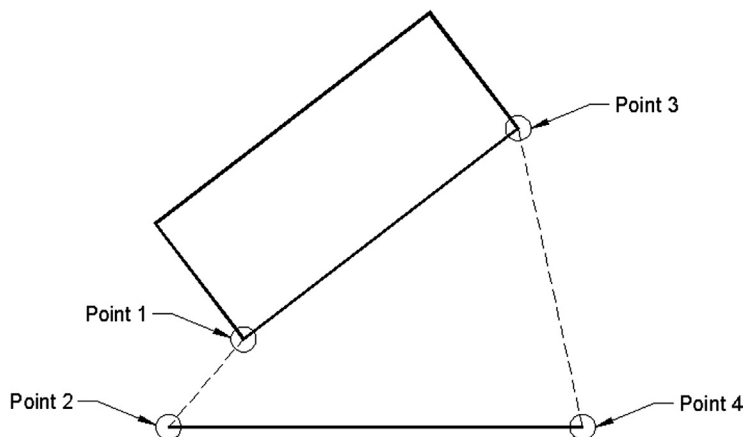

FIGURE 15.2
- Step 3.** Pick the lower left corner of the rectangle using the `ENDpoint` OSNAP (point 1 in Figure 15.2).
- Step 4.** Pick the left point of the line using the `ENDpoint` OSNAP (point 2 in Figure 15.2).
- Step 5.** Pick the lower right corner of the rectangle using the `endpoint` OSNAP (point 3 in Figure 15.2).
- Step 6.** Pick the right point of the line using the `ENDpoint` OSNAP (point 4 in Figure 15.2).